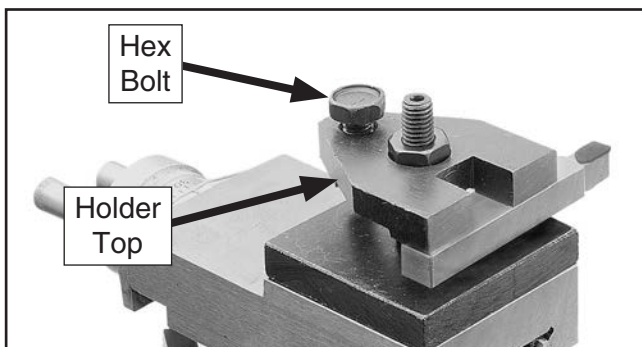

Figure 41. Cutting tool properly installed in the C-type tool holder.
5. Thread the M8-1.25 x 30 hex bolt into the holder top, slide the top onto the tool post bolt, then secure the tool with the M8-1.25 hex nut (see **Figure 41**).